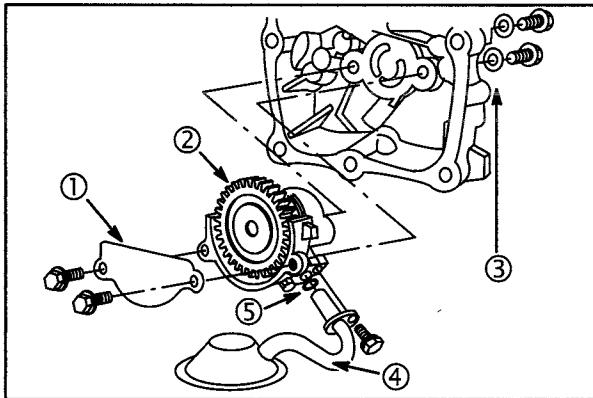

**Fig. 5**
3. Align timing marks on camshaft and crankshaft timing gear. Install camshaft, **Fig. 5**.
4. Assemble governor spool (2) to camshaft (except Models **540000**, **610000**).
- a. Install new O-ring (3) in cylinder.
- b. Make sure that spool engages flyweights and slot on spool fits over locating pin (1).